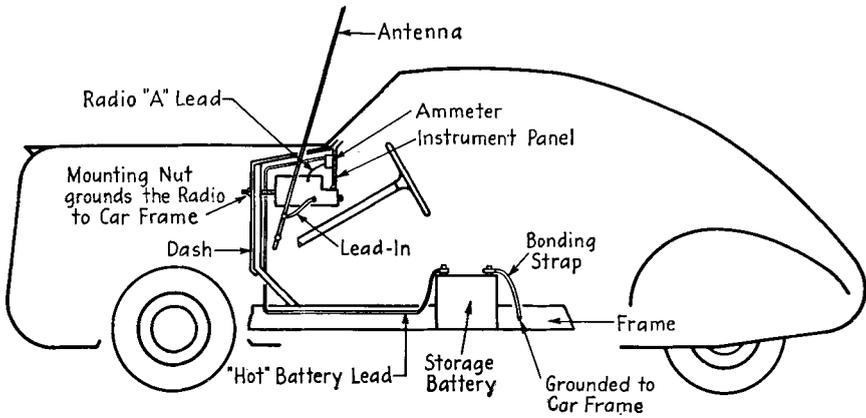

FIG. 20-1. Typical automobile radio installation.
**Typical auto radio installation.** Figure 20-1 shows a typical auto radio installation. The receiver itself is usually mounted to the dash of the car behind or below the instrument panel. The antenna shown is the one in most common use, the side-cowl antenna, sometimes called the “buggy whip.” It is insulated from the car and is connected to the radio receiver by a length of low-capacity, shielded lead-in wire. Power for the receiver is usually obtained through a lead connected to the ammeter on the instrument panel, and the ammeter is in turn connected to the “hot” side of the storage battery. The car frame or chassis acts as the common return lead. The receiver picks up a ground connection through its mounting bolts to the dash, and the ground side of the battery is connected to the car frame by a heavy bonding strap. The radio controls, dial, volume, etc., are usually mounted in a cutout designed for the purpose on the instrument panel of the car.